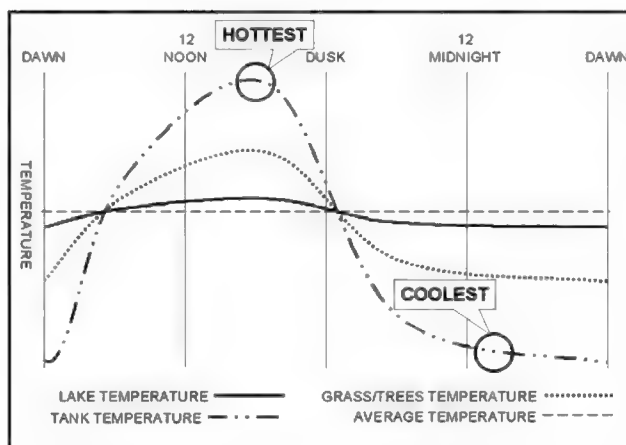

Figure E-10. Temperatures of objects during 24-hour period.
(1) The temperature relationship between one object and another changes during the day due to heating and cooling as the sun rises and sets.
(2) The gunner knows that vehicles, buildings, and asphalt roads get hot in the sun. Grass and trees become warm but not so hot they cannot be touched. Large bodies of water do not warm up noticeably in one day. Objects that heat up the most during the day tend to become the coldest at night. Objects that heat up very little during the day tend to cool off very little at night (Figure E-10). To illustrate, two images are seen on the same terrain (one at noon and the other at midnight).